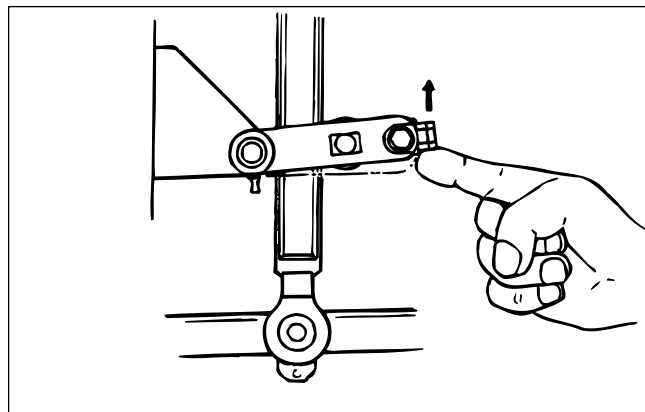

FIGURE 5-1, Stroker Pivot Free Play
- Move large stroker pulley by hand until Crossbeam is vertical (see Figure 5-1).